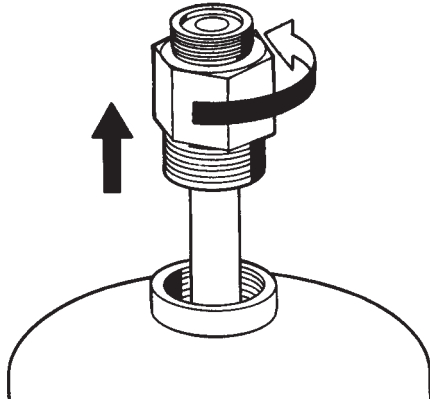

FIGURE 5
- Remove tank adaptor/tube assembly from tank fill opening. Visually inspect tank adaptor to determine bursting disc is in place and that silver side is away from tank. See Figure 5.